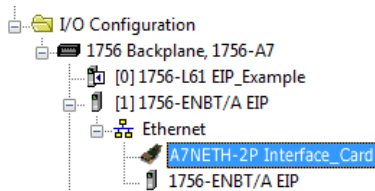

Figure 21: AOP Interface Card I/O Configuration
- 14) You should now see the interface card in the 1756-ENBT/A branch under the I/O Configuration in the controller organizer view. The full I/O Configuration tree should appear similar to Figure 21.